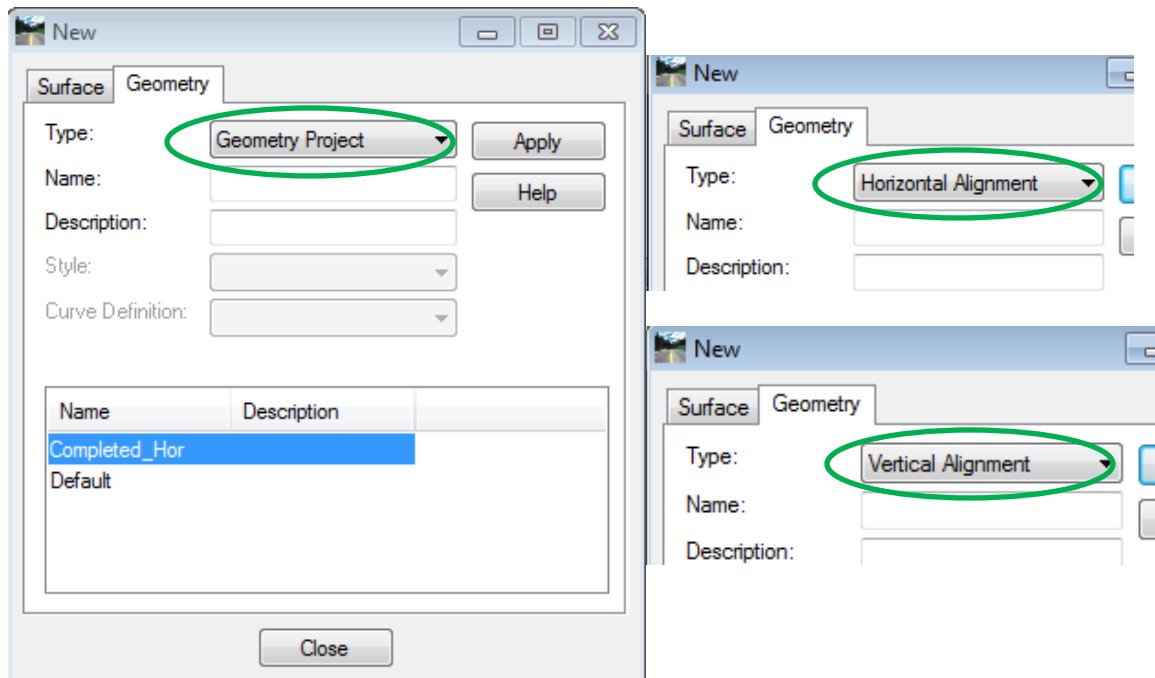

Figure 1-6 InRoads New Dialog Box
- C. Click to **File > New** to create your geometry project. This command shown in Figure 1-6 does not create an actual file it only creates an internal name for the Geometry Project.